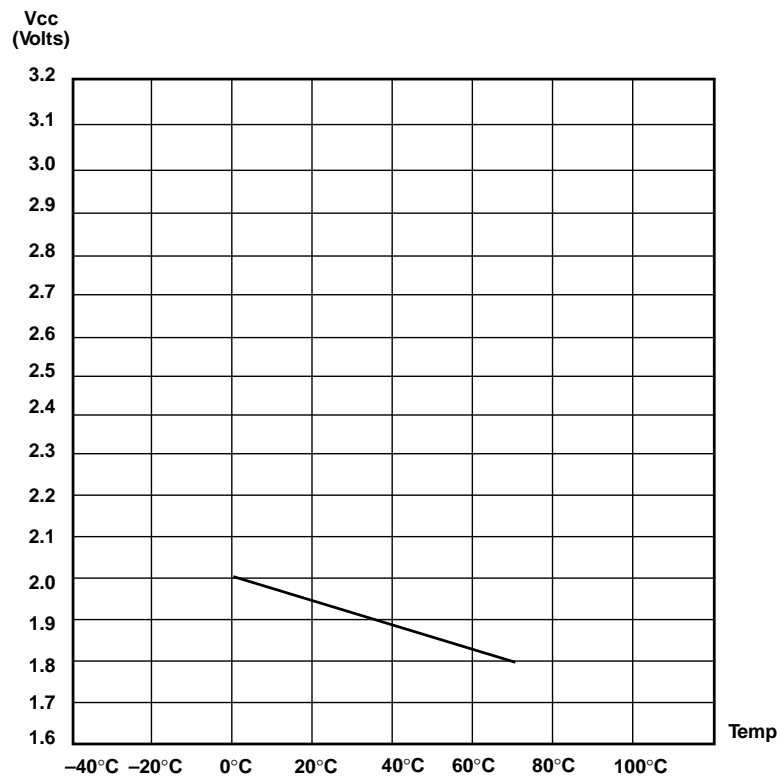

Figure 17. Typical Auto Reset Voltage (VLV) vs. Temperature
**Auto Reset Voltage ( $V_{LV}$ ).** The Z8 has an auto-reset built-in. The auto-reset circuit resets the Z8 when it detects the  $V_{CC}$  below  $V_{LV}$ . Figure 17 shows the Auto Reset Voltage versus temperature.